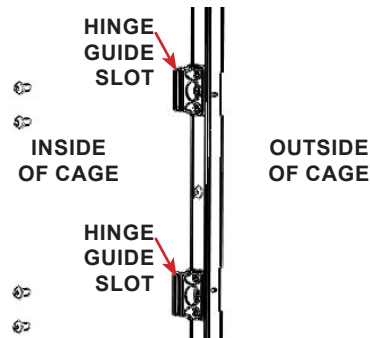

FIGURE 3.7 - Hinge Assembly Rotate
**STEP 6:** Flip, rotate the hinge assembly to the right side of the cage frame so that the hinge bushing guide is located on the inside of the cage frame. See FIGURE 3.7